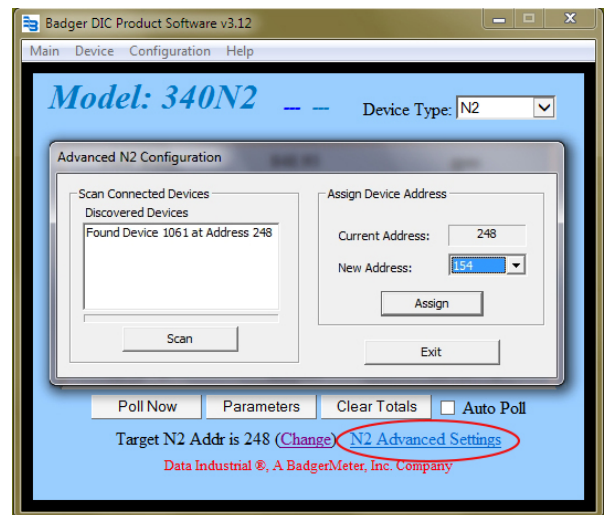
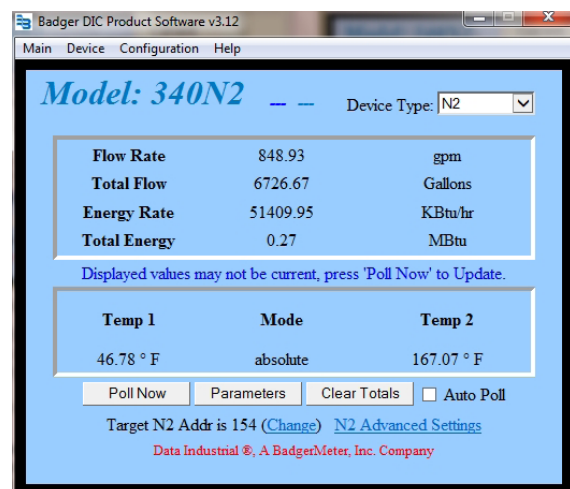

Figure 14: Scan Addresses
Figure 15: Poll Now
- If you do not know the Address of the current transmitter or other devices on the string that might be in conflict, select **N2 Advanced Settings** (Figure 14) to open the Advanced N2 Configuration window. Then click **Scan** to see the list of known Addresses.
When the Scan is complete, scroll down to see the last assigned Address. Then click the *New Address* drop-down menu to select the next Address number for the transmitter, and click **Assign**. The example in Figure 14 shows **154** is assigned. Click **Exit** to close the N2 Advanced Settings window. The new Address number you assigned will display at the bottom of the screen in the *Target N2 Address* field. See Figure 15.
9. When the Device Type, Comm port and Address have been properly selected, click the **Poll Now** button to establish communication (Figure 15).
Program the transmitter using the diagram in Figure 15 as a reference.